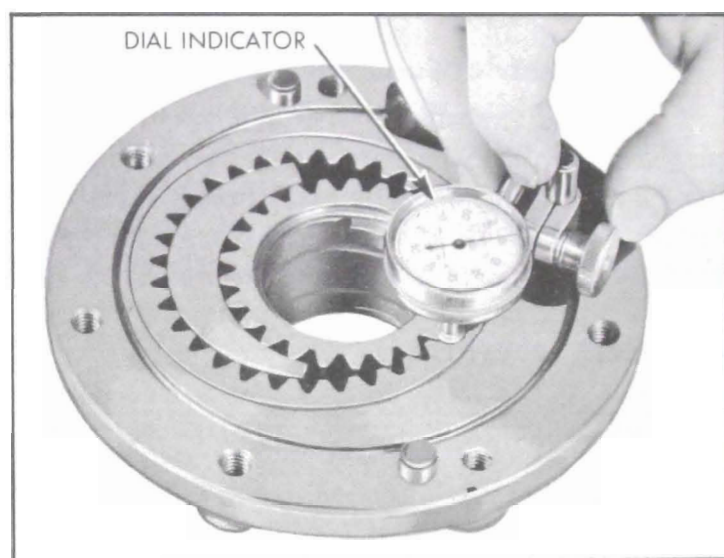

Figure 5-66—Checking End Clearance of Gears in Pump Body
6. Check pump gear end clearance by mounting dial indicator on support, J-1013. Place indicator support on pump body so that the indicator button bears on body and set indicator at zero. Then rotate the support and indicator, keeping the support on the pump body and indicate each pump gear. The indicator readings for the front pump should be .001 to .0025 and rear pump .001 to .002. See Figure 5-66.